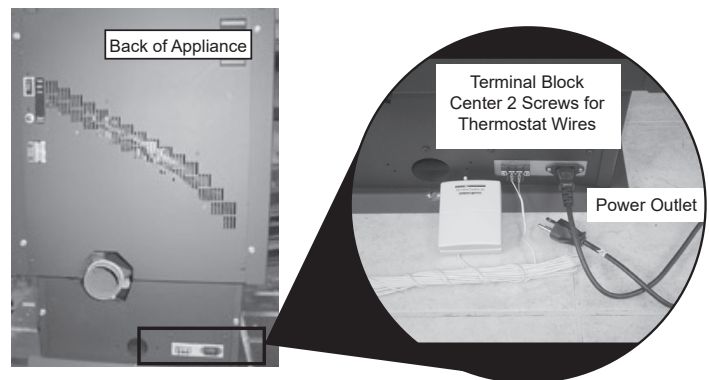

Figure 20.4
1. A low voltage thermostat is required to operate this pellet appliance. You may use the included wall mount thermostat (**Figure 20.4**) or purchase an optional programmable thermostat or remote control. It is equipped with an adjustable heat anticipator. The current rating is .05 amps. The anticipator needs to be adjusted to the lowest setting available.